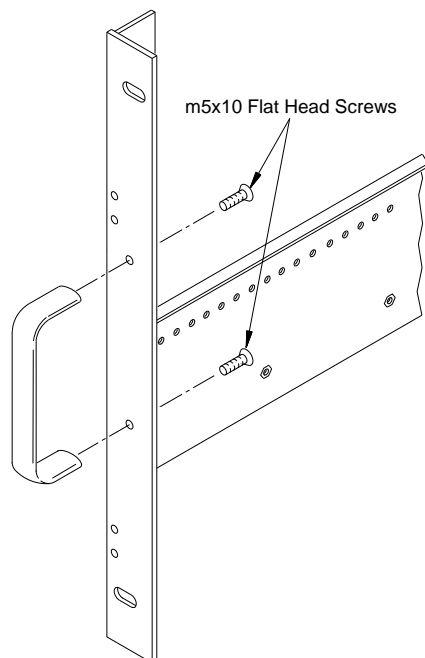

Figure 2-5. Attaching Handles to the Adapters (Option 923 - kit p/n E8400-80923)
1. Attach the handles to the standard adapters using the m5x10 flat head screws (Figure 2-5). Handles are included only with the Agilent E840xA Standard adapters (Option 923).